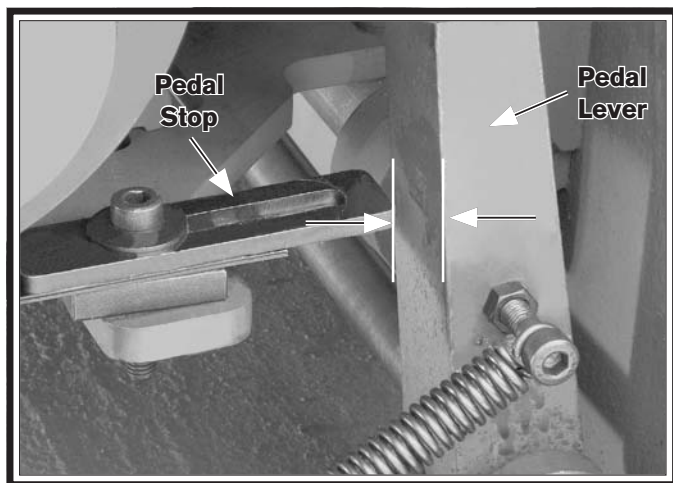

Figure 127. Brake pedal travel adjustment.
8. Tap the pedal stop into position so there is approximately a 25mm gap between the pedal lever and the stop (see **Figure 127**), then firmly tighten the pedal stop cap screw.